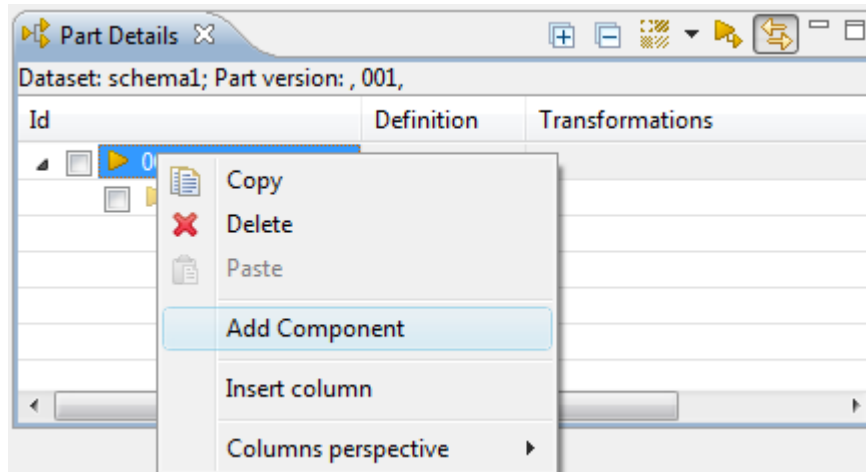

Figure 3. Context sensitive menu with selected Add component menu item
- Right click on the root node. Select **Add component** menu item in the appeared context sensitive menu (see Figure 3) or select the autorow node under the component you are going to add a new component to.